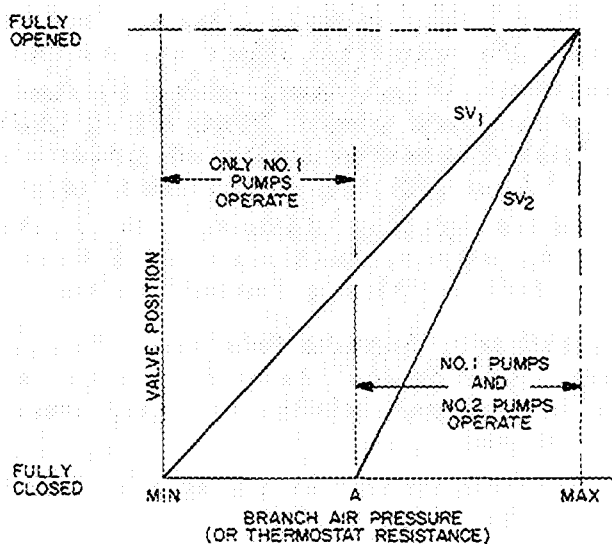

Fig. 1 – Typical Capacity Control Valve Positions (16JA077 thru 124)
Larger size (077 thru 124) machines use only one steam control valve, refrigerant pump and solution pump when operating at low loads. When the machine load increases to a predetermined point, the second steam control valve and second set of pumps will energize. Refer to Fig. 1
If the machine has pneumatic controls, steam control valve no. 1 (SV₁) starts to open when the chilled water temperature rises, causing branch air pressure to increase. When branch air pressure reaches a predetermined point (point A, Fig. 1), steam control valve no. 2 (SV₂) starts to open. The pneumatic-electric (PE) switch closes, causing no. 2 solution and refrigerant pumps to energize.
If the machine has electronic controls, the steam control valve (SV₁) opens when the chilled water temperature rises, causing the chilled water thermostat resistance to increase. At some predetermined resistance (point A, Fig. 1), SV₁ signals SV₂ to start opening, also energizing no. 2 solution and refrigerant pumps.